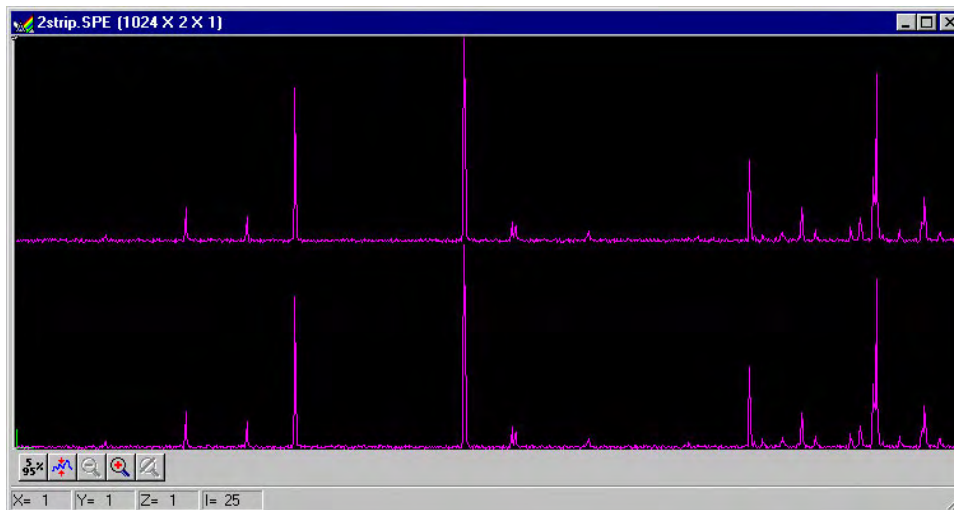
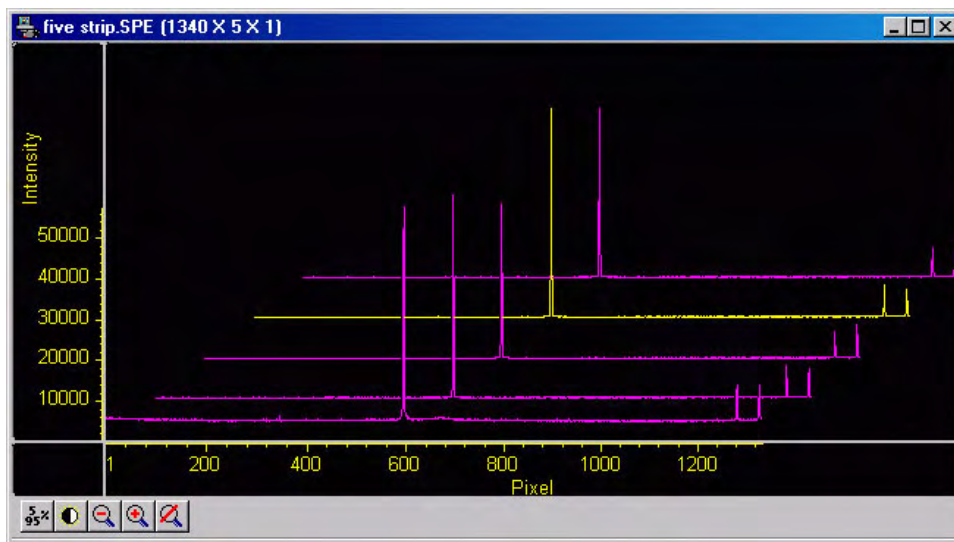

Figure 45. 3D Graph with Two Data Strips
Figure 61. 3D Graph with Five Data Strips
- ⇒ If there are only two strips of data, they will be displayed as graphs stacked in a two-dimensional plot, the same as for a 3D Graph of two strips. See Figure 45 (page 64).
Data files can be opened as 3D graphs from the Open dialog box. Figure 61 shows a 3D graph with five data strips. Figure 45 (page 64) shows a 3D graph with two data strips. Both examples illustrate the behavior of the **Auto Select** algorithm as discussed on page 63. The following paragraphs contain procedures for opening and displaying data in graphical format.